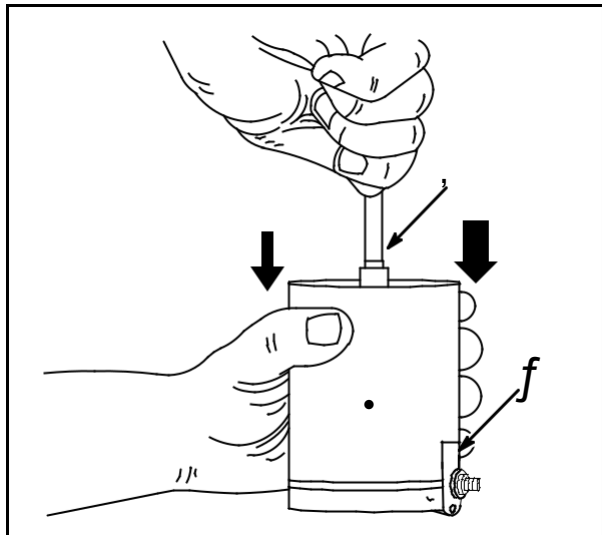

Fig. 27
The starter housing (1) has a large notch (3) which indexes over the insulated terminal, **Fig. 27.**